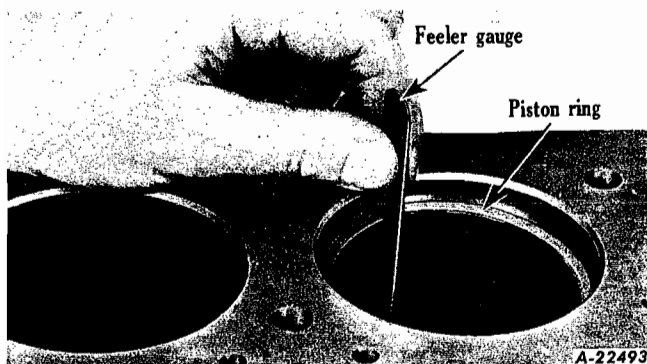

Fig. 58 - Checking ring gap.
2. Place piston and connecting rod in vise. Test each piston ring for proper gap by placing in cylinder and measuring gap with feeler gauge. Gap should be .016" to .026" (Fig. 58).